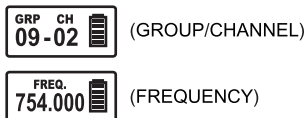

Fig.11
6. Group (GRP) / Channel (CH) / Frequency (FREQ.) are synced from receiver and cannot be changed. Fig. 11